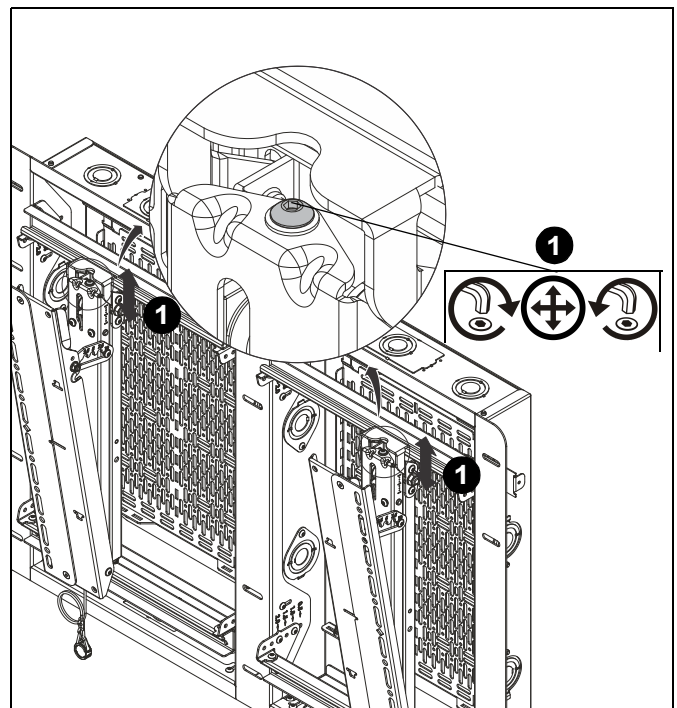

Figure 27
1. Adjust micro height-adjustment screws to make minor adjustments to height of each interface bracket (A and B). (See Figure 27)